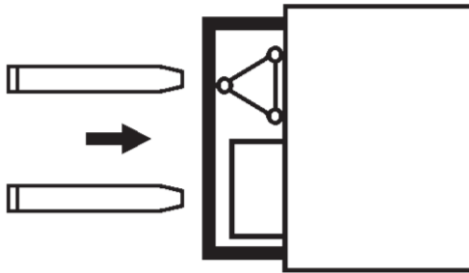
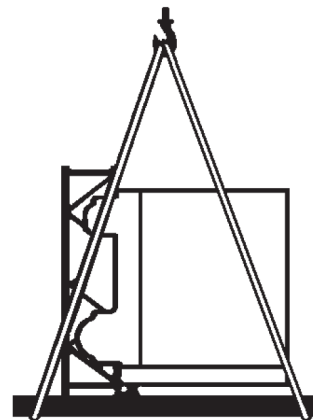

Figure 5.1
Figure 5.2
- use lift trucks as shown in figure 5.1 or cranes as shown in figure 5.2, when handling the material. The crane used can be the one forming part of the transportation vehicle itself or any other used in the construction site. It is absolutely necessary for the lifting equipment to have adequate strength to lift the load